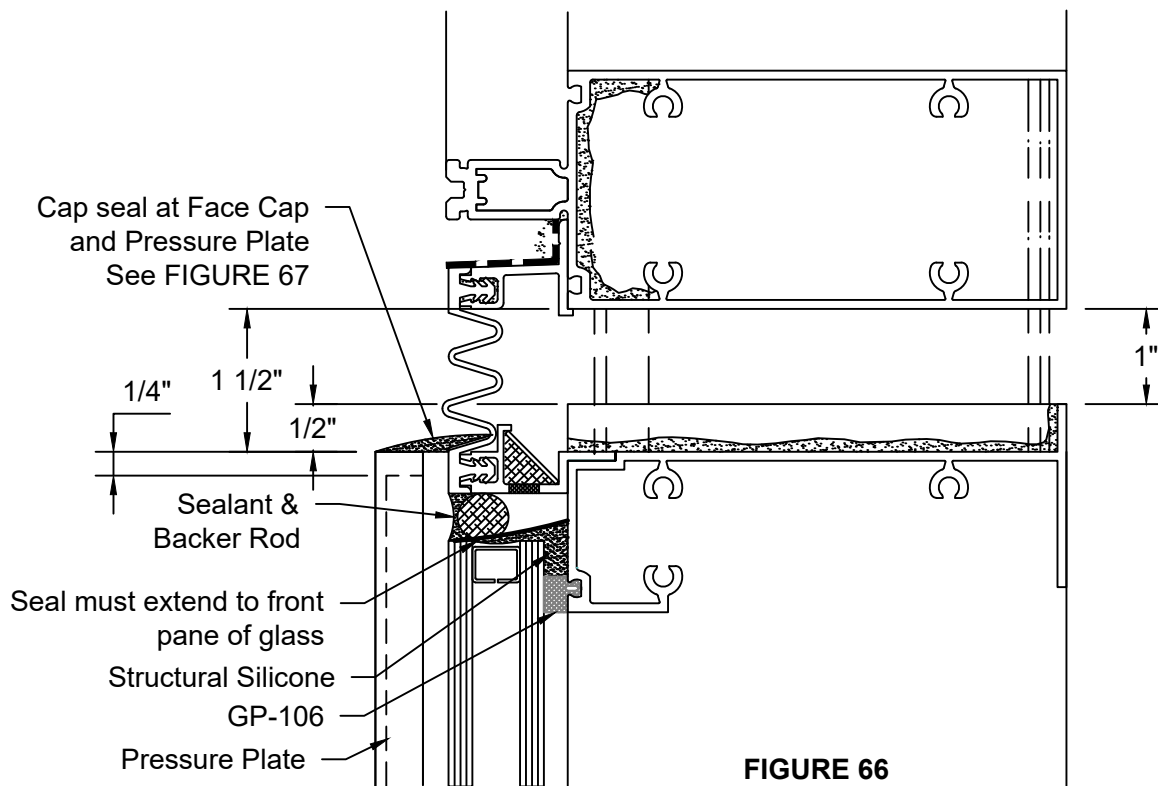

**FIGURE 64**
- 6.14 Gasket race of WW-257 to be filled with continuous bead of sealant and GP-144 gasket inserted into races for WW-257 and WW-258. Leave ends of gasket loose at jambs or corners and set once molded jamb or corner gaskets are installed. See FIGURE 64